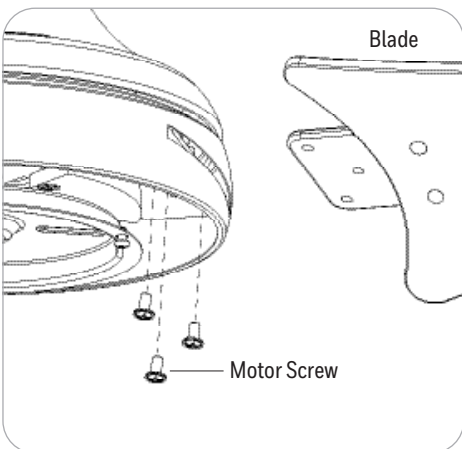

Figure 6.4
4. Insert blade through slot in the side of the motor assembly, ensuring the "THIS SIDE UP" label faces the ceiling. Align the holes of one blade with three motor screw holes in underside of the motor assembly. Secure with three motor screws. Repeat this step for the remaining blade arms (Figure 6.4).